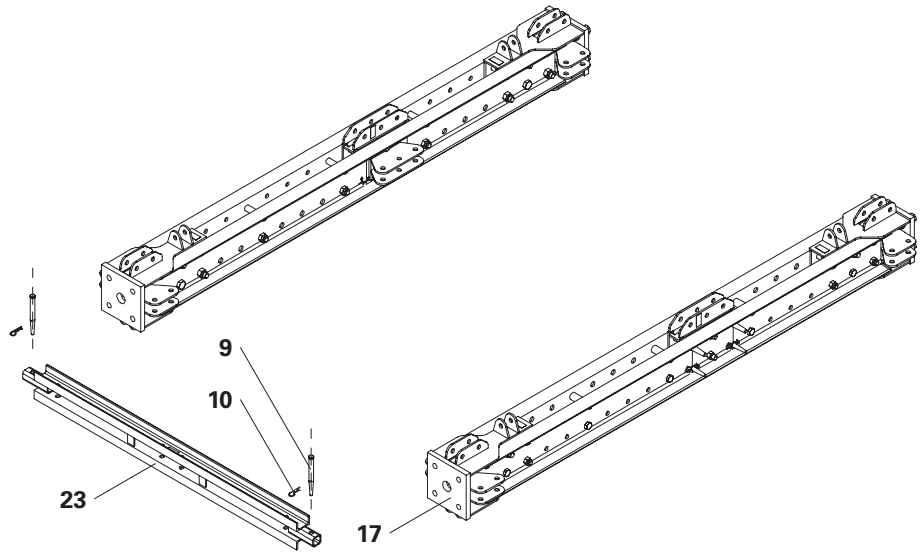

Fig. B3.01a
1. Insert the horizontal ledger VST 200 (23) into the prop base VST (17).
2. Connect the horizontal ledger VST 200 (23) with 1x fitting pin \varnothing 21 mm (9) on both sides respectively.
3. Secure fitting pins with cotter pins 4/1 (10). (Fig. B3.01a)